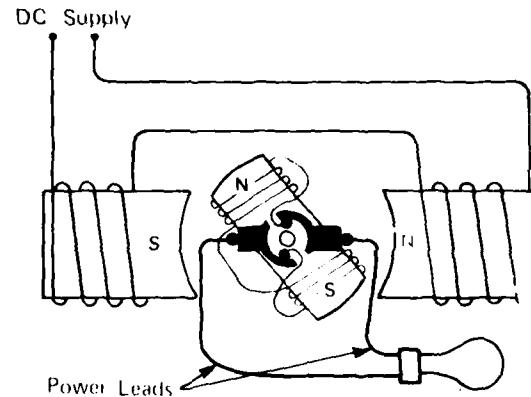

Figure 25
- The current flows to the commutator and through the brush circuit to the machine, light or appliance where it will be used. (See Figure 25)